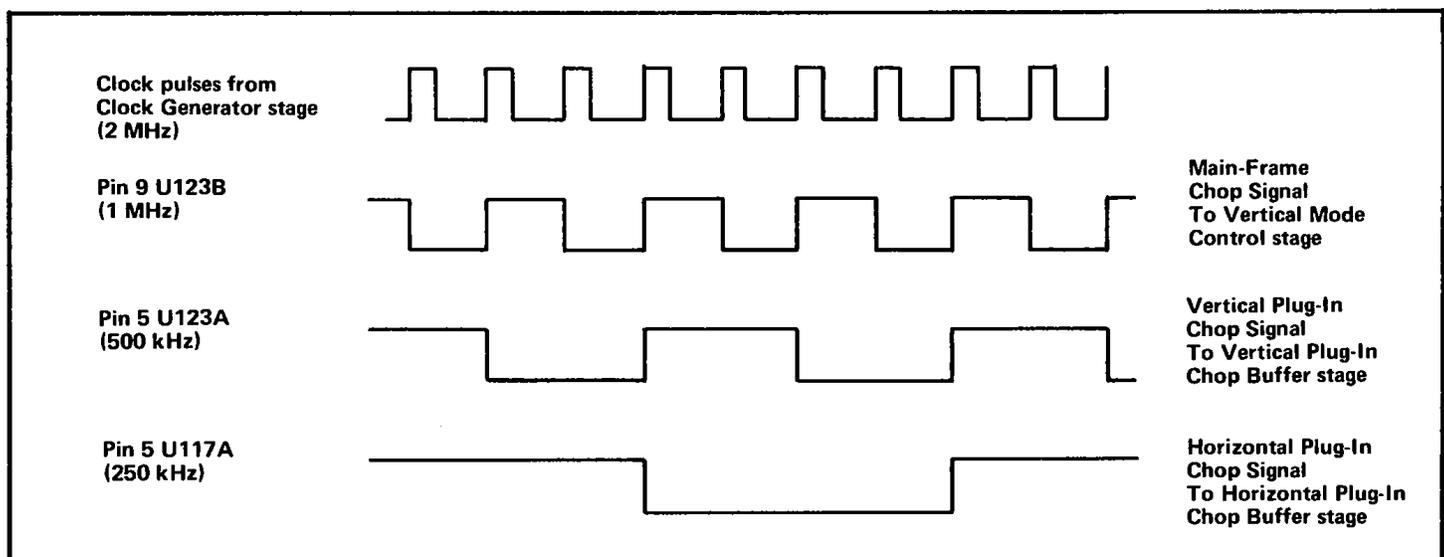

Fig. 3-9. Idealized input and output waveforms for Chop Counter stage when operating in condition 1.
The two-megahertz clock pulses from the Clock Generator stage are connected to the trigger (T) input of U123B. Under this condition, U123B changes output states with each positive-going Clock pulse, and the signal at its "1" output is a square wave which switches between the HI and LO levels at a one-megahertz rate. This signal is connected to the Vertical Mode Control stage to provide the Vertical Mainframe Chop Signal. It is also connected to the trigger input of U123A. U123A also changes output states with each positive-going pulse at its trigger input to produce a 500 kilohertz square wave at its "1" output. The output from U123A provides the Vertical Plug-In Chop Signal to the Vertical Plug-In Chop Buffer stage. It is also connected to the trigger input of U117A to result in a 250-kilohertz Horizontal Plug-In Chop Signal at the "1" output. Idealized waveforms showing the timing relationship between the input and output signals for this stage when operating in condition 1 are shown in Fig. 3-9.